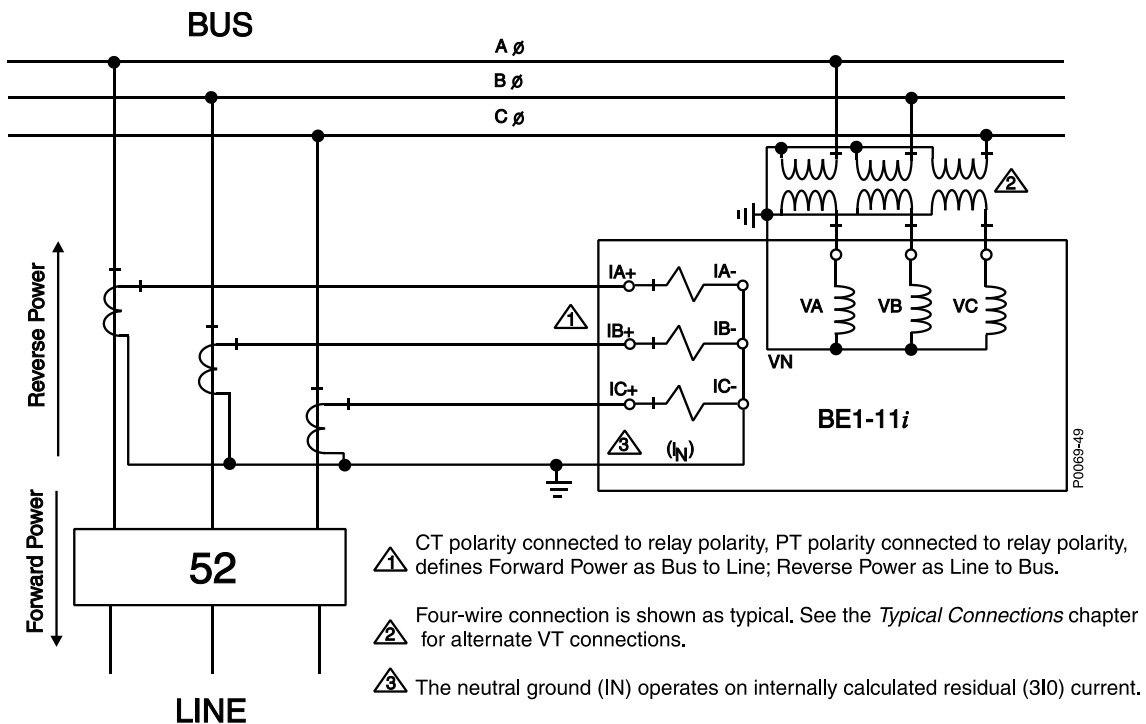
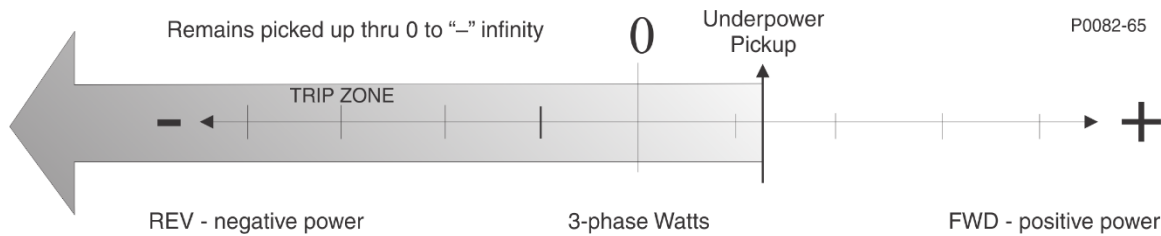

Figure 19-1. Direction of Power Flow Defined by the Polarity of Voltage and Current Connections
Figure 19-2. Forward and Reverse Pickup Values
In addition to exceeding the power pickup threshold, direction of power flow (forward or reverse) must match the directional setting for the 32 element to operate. In the BE1-11*i*, the forward and reverse directions are defined by the polarity voltage and current connections to the BE1-11*i* as shown in Figure 19-1. Based on IEEE polarity convention, forward power is defined as bus to line and reverse power is defined as line to bus.
Three-phase power pickup settings for the power elements are always positive regardless of the directional setting. However, it is useful in understanding the element response to visualize the forward direction as positive power and the reverse direction as negative power. If we think in terms of a forward and reverse scale with zero (0) in the middle as shown in Figure 19-2, positive and negative power flows relative to the forward and reverse directional setting. For example, assume an intertie application where the Area EPS (electric utility) requires the Local EPS (source of non-utility generation) to separate from the Area EPS (trip the intertie breaker) if any power flows towards the Area EPS. For illustrative purposes, assume that the BUS in Figure 19-1 is the Local EPS, 52 is the intertie breaker, and LINE is the Area EPS. Normal power flow is from the Area EPS to the Local EPS, which happens to be an industrial facility with local generation used for peak shaving.
Assuming polarity current and voltage connections as shown in Figure 19-1, forward power is defined as flowing into the Area EPS and reverse power is defined as flowing into the Local EPS. For this application, the 32 element should be set to trip for minimum underpower in the reverse direction (to the Local EPS). Therefore, the settings would be Reverse, Under, and 1 watt. To increase sensitivity, mode selection should be 3 of 3 which requires each phase power to fall below $\frac{1}{3}$ of the three-phase power setting or 0.33 watts. Assume that normal power absorbed by the load is 4 kW in the reverse or negative direction on our scale. If load is suddenly lost at the industrial plant while the peak shaving generation is running, power may flow towards the Area EPS depending on the load to generation ratio. What was a negative 4 kW passes through 0 watts on its way to some positive power level. However, in doing so, passes through the negative underpower trip threshold of Reverse, Under, 0.33 watts/phase, resulting in a 32 trip and opening of the intertie circuit breaker. From negative 0.33 to positive infinity, the 32 element remains in a picked up condition as shown in Figure 19-2. A trip time delay should be included to ensure that the 32 element does not operate for a transient power condition.